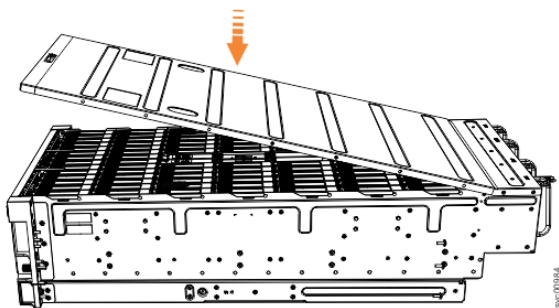

Figure 39. Aligning the top cover
1. Carefully lower the cover and ensure that it is aligned correctly with the back of the enclosure, as shown in Figure 39 on page 49.